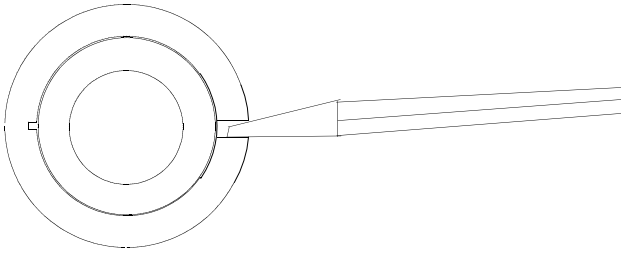

Figure 11
- 4.2.2.4 Wear spacers are slotted to allow for in-place removal. Using a narrow chisel wedged into the slot in the spacer, as shown in Figure 11, pry the wear spacer until it fractures and is clear to be removed from the stud. Repeat for the remaining spacers in the set that is to be removed (one spacer from each stud location).